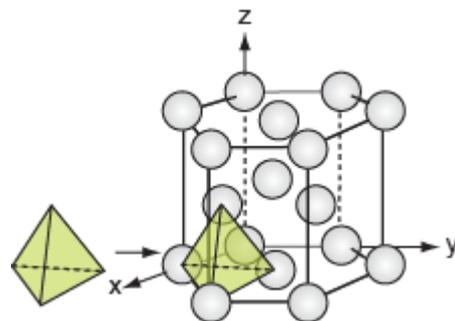

Figure C30. One of the tetrahedral holes of the HCP structure.
**E16.** A tetrahedral hole of the HCP structure is sketched in Figure C30.